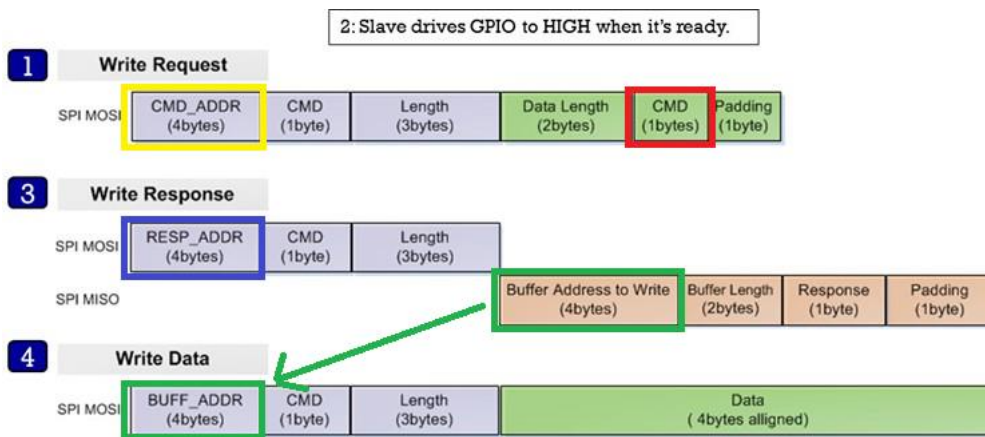

Figure 3. Write operation structure
1. The Host sends a WRITE_REQ command (0x80, red rectangle in Figure 3) to the General Command address (0x50080254) (yellow rectangle in Figure 3).
3. The Host reads the Write Response message by Response Command address (0x50080258, blue rectangle in Figure 3) and parse it using struct _st_host_response (see Section 3.2.2).
4. The Host sends data to address (BUFF_ADDR) which is received from the Slave in the Write Response message (green rectangle in Figure 3).